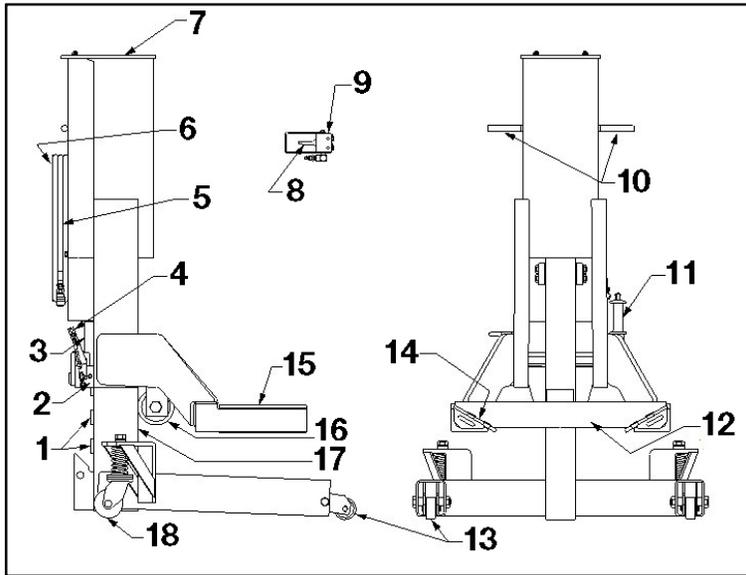

Fig. 2: CWL-10/CWL-15 components
5. Push the lift pad under the tire until the lift table tube contacts the tire (see Figure 2 for identification).